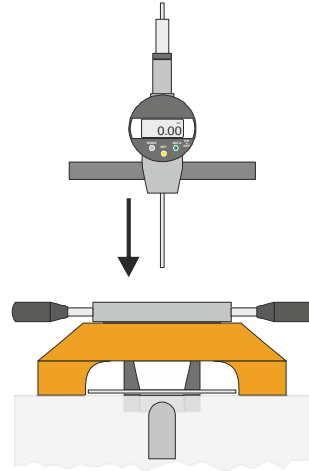

Figure 6.
4. Remove the gauge from the tester (unscrew the clamping screw), place the gauge into the gauge holder and tighten the retaining screw gently (see Figure 6).